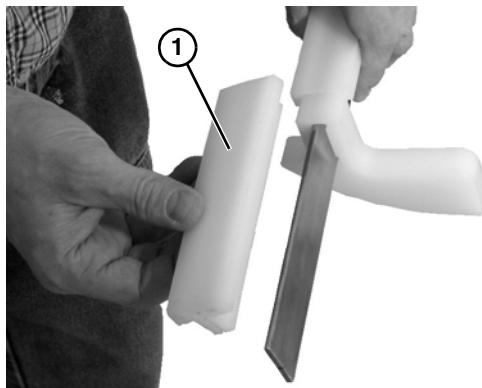

Figure 42
3. Remove and replace wear strips if worn (**Figure 42, item 1**).